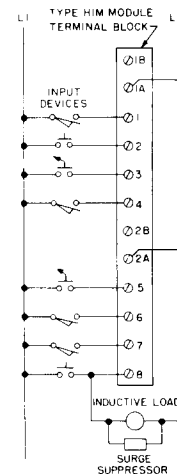

Figure 1 - Typical Wiring
Input device wiring is done to the terminal block on the front of the input module. This terminal block is removable so that the module can be replaced without disturbing the wiring. Figure 1 illustrates typical wiring for the Type HIM-131 Input Module. The '1A' terminal is the common terminal for the first four inputs (numbered 1 through 4). The '2A' terminal is the common terminal for the second four inputs (numbered 5 through 8). If a single voltage supply is used for more than one group of four inputs, the 'A' terminals for each group may be connected together.
- In those applications where an inductive load such as a motor starter or solenoid is wired in parallel with a Type HIM-131 Input Module, a suppressor must be installed as indicated in Figure 1. A typical suppressor for 24V AC operation consists of a 0.5 mfd, 400 volt capacitor with a 220 ohm resistor in series.